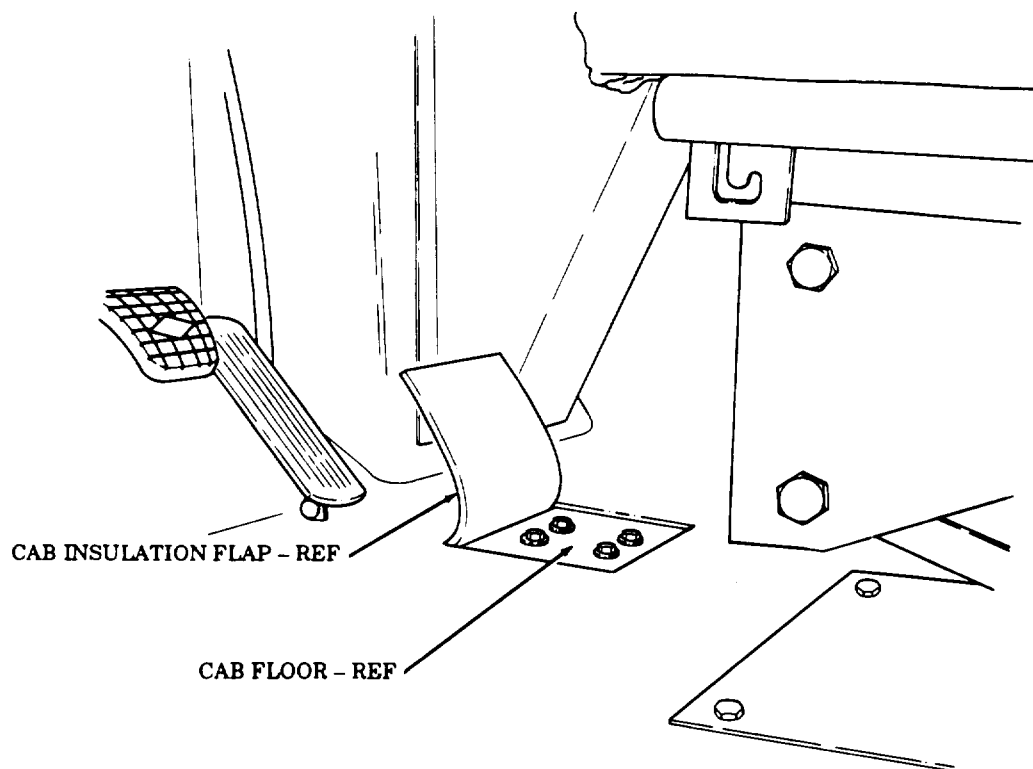

FIGURE 11
- (16) Apply MMM-A-1617 adhesive to cab floor and install cab insulation flap as shown in figure 11.